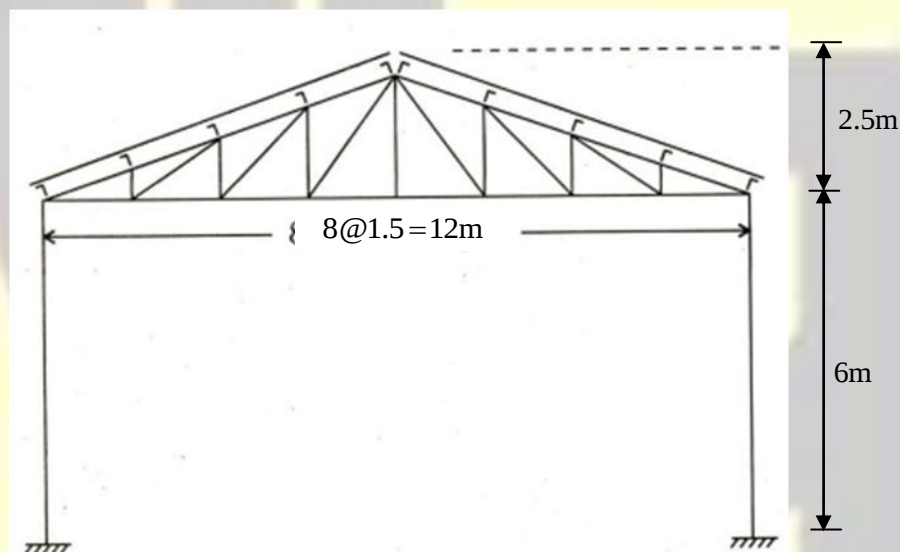

Figure 13
- (b) A factory shed is to be constructed using truss having a span of 12 m. The spacing of the truss is 4 m. Galvanised iron sheets are to be placed over purlins located at the nodes as shown in Figure 13. Determine the design load at the nodes due to live load and wind load for an intermediate truss. Assume design wind pressure = 1500 N/m^2 $C_{pe} = -0.7$ (for wind angle 90°), $C_{pi} = \pm 0.2$. Loads are to be shown in the diagram separately.